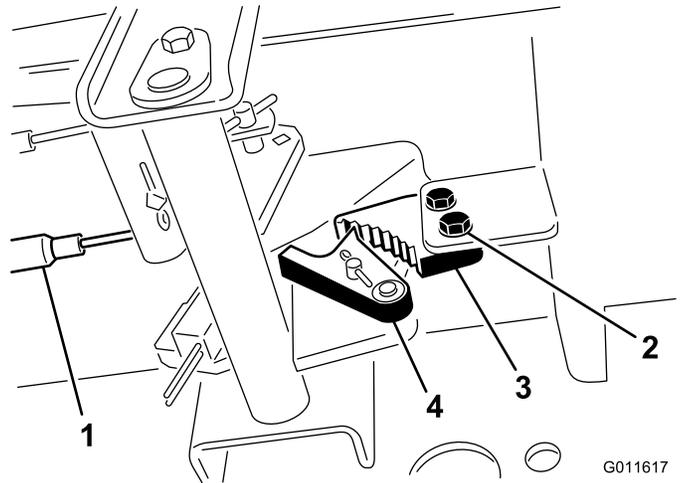

Figure 69
1. Loosen the 2 screws securing the parking brake pawl to the frame (Figure 69).
2. Press the parking brake pedal forward until the brake detent completely engages on the brake pawl (Figure 69).